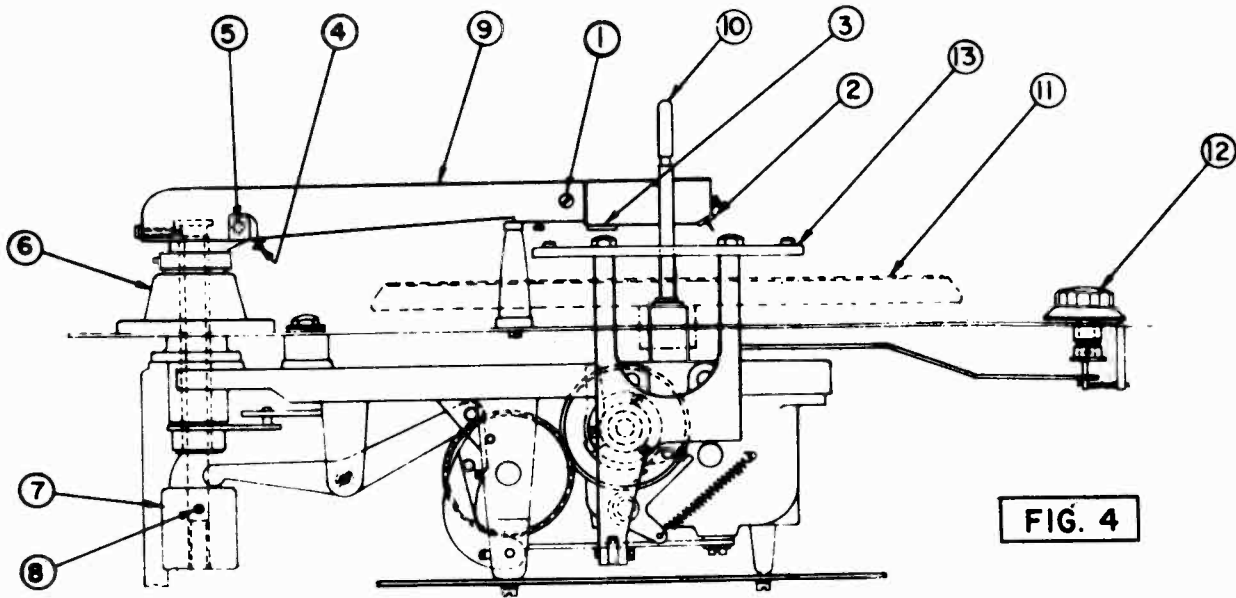

FIG. 4
1. Loosen the small set screw "4" Fig. 4 and punch the pivot pin "5" from the tone arm using a small punch and hammer.
To remove the pickup cartridge assembly, remove screw "1" Fig. 4, and pull the cartridge from the arm, examining the connections to the bakelite terminal block. To remove the cartridge from the assembly, remove the two retainer plates "2" and "3" Fig. 4, and unsolder the pigtail connections from the bakelite block.